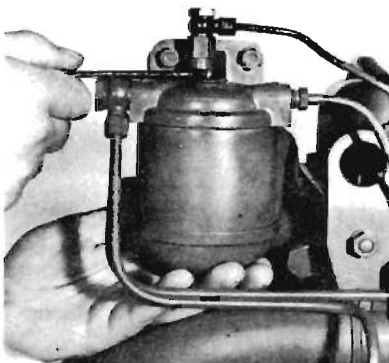

Fig. 11
2. Unscrew setscrew at top of filter bowl (see fig. 11).